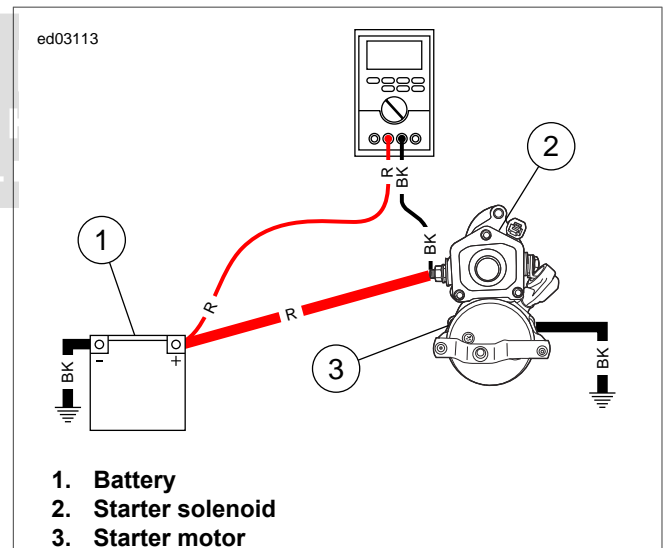

Figure 1-13. To Starter Solenoid Battery Terminal
2. See Figure 1-13. Move black meter lead to battery side post on starter solenoid. Crank starter. Observe voltage drop.